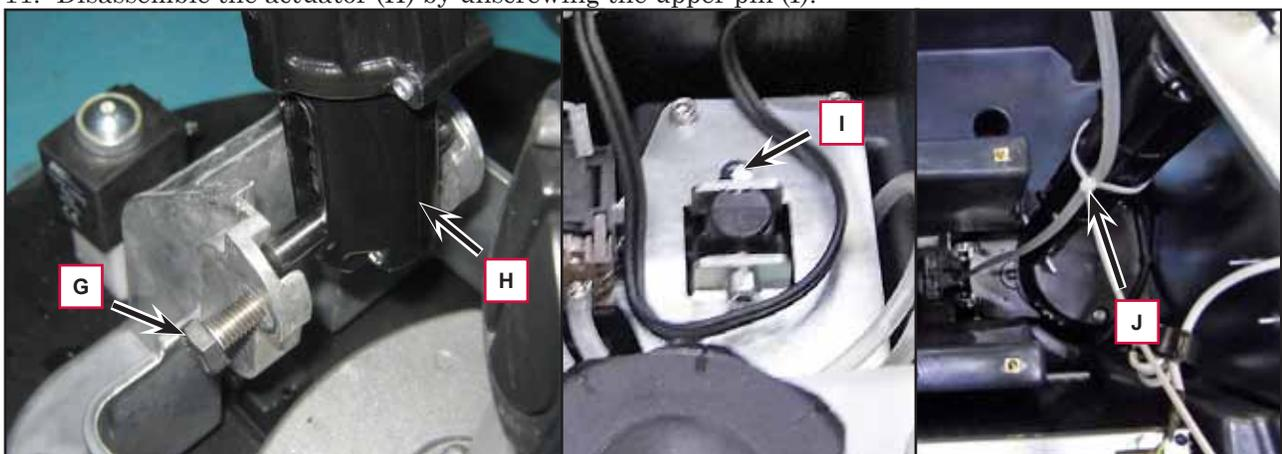

Figure 13
10. Remove the screw (G, Figure 13) and release the actuator lower pin (H).
11. Disassemble the actuator (H) by unscrewing the upper pin (I).